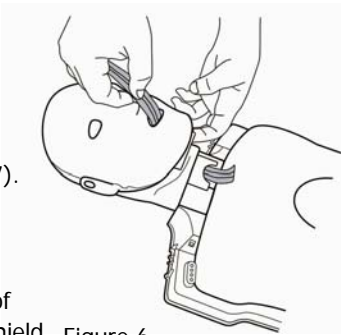

Figure 6
6. Push the lung bag into the mouth until the bag exits through the neck (Figure 6).